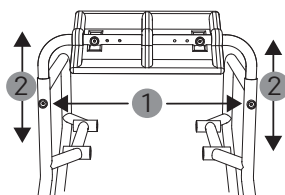

Fig. 9
1. To adjust the backrest height, loosen the knurled nuts on the side elements and pull out the bolts (1, Fig. 9).
2. There are three holes for adjusting the height of the backrest (410/435/460 mm). To adjust the height, pull both sides of the backrest up evenly (2, Fig. 9).